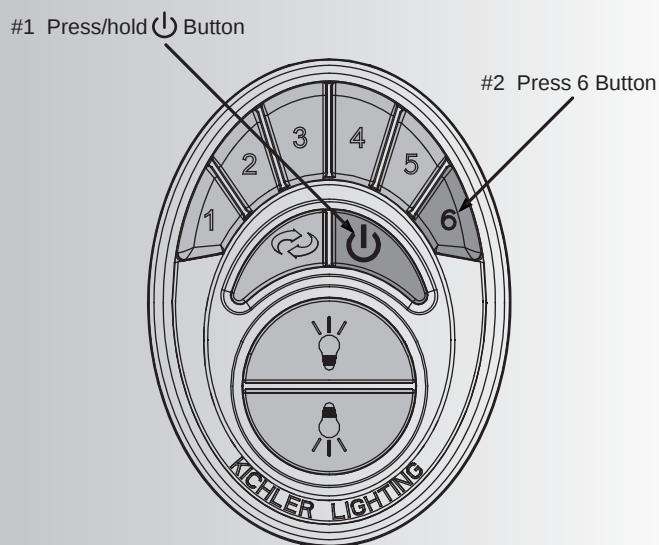

Fig. 22
4. Turn the power on, press and hold the [power button icon] button until the ceiling fan light blinks twice (Figure 22)
6. After the ceiling fan light blinks twice, press and release the High Speed (6) Button. Let the ceiling fan run for a minimum of 90 seconds (1 ½ minutes). The control system will do another self check, initialize all operational functions and complete the programming process (Figure 22).